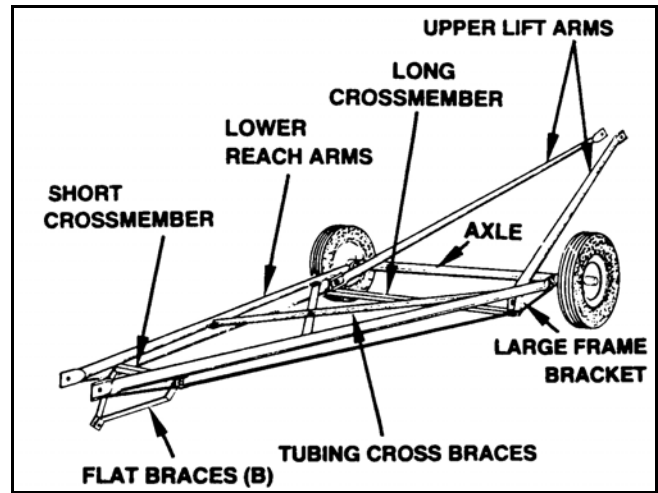

Figure 3.18
- a. Attach short crossmember to small frame brackets loosely with two $1/2"$ x $1-1/2"$ bolts and locknuts, sandwiching the flat braces (B) between the short crossmember and small frame braces on each side (Figure 3.18).